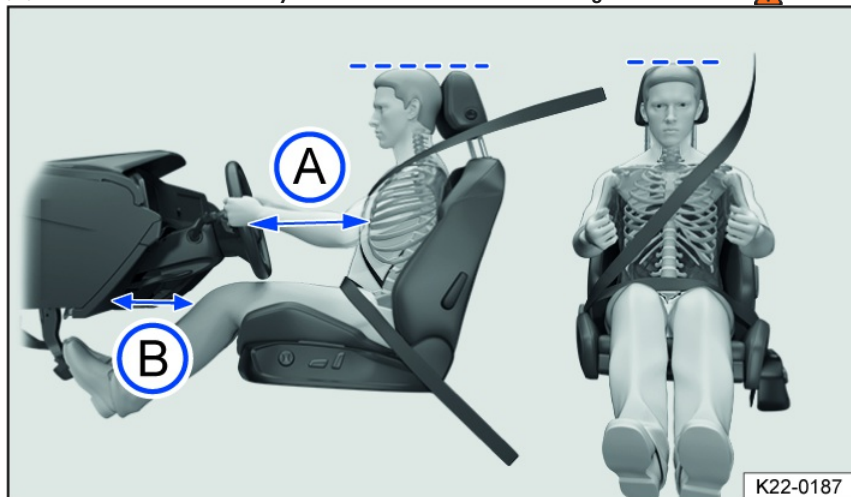

Fig. 22 General example: correct distance between the driver and the steering wheel, correct safety belt routing and correct head restraint adjustment.
- Adjust the head restraint so that the upper edge of the head restraint is in line with the upper portion of the head as much as possible, but not lower than eye level. Position the back of the head as close as possible to the head restraint *fig. 22*.
- Adjust the forward/back position of the driver seat so that you can press the pedals while your legs are slightly bent and there is at least 10 cm (around 4 inches) of space between the instrument panel and your knees fig. 22.
- Adjust the steering wheel so that the distance between the steering wheel and your chest is at least 25 cm (around 10 inches) fig. 22 and you can hold the steering wheel firmly at the sides with both hands and your elbows slightly bent.